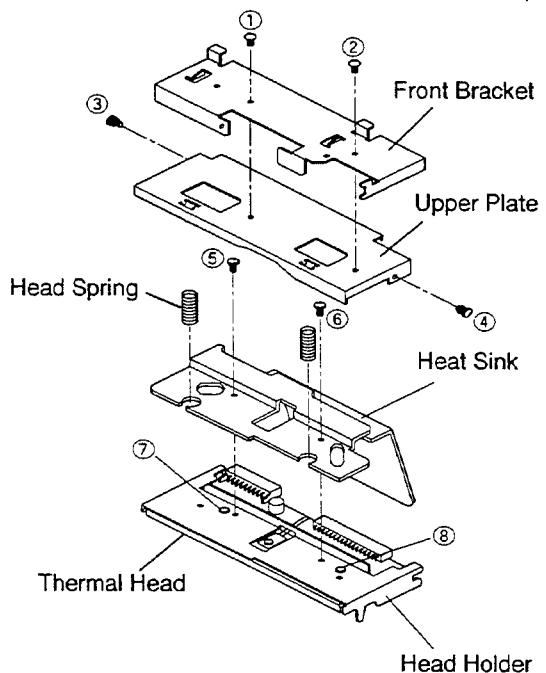

Fig. 14
2. Remove two screws (① and ②) securing the Front Bracket shown in Fig. 14 and remove the Front Bracket.
3. Remove two screws (③ and ④) securing the Upper Plate shown in Fig. 14 and remove the Upper Plate.
5. Remove two screws (⑤ and ⑥) securing the Heat Sink shown in Fig. 14 and remove the Heat Sink.
7. Remove two screws (⑦ and ⑧) securing the Thermal Head shown in Fig. 14 and remove the Thermal Head.